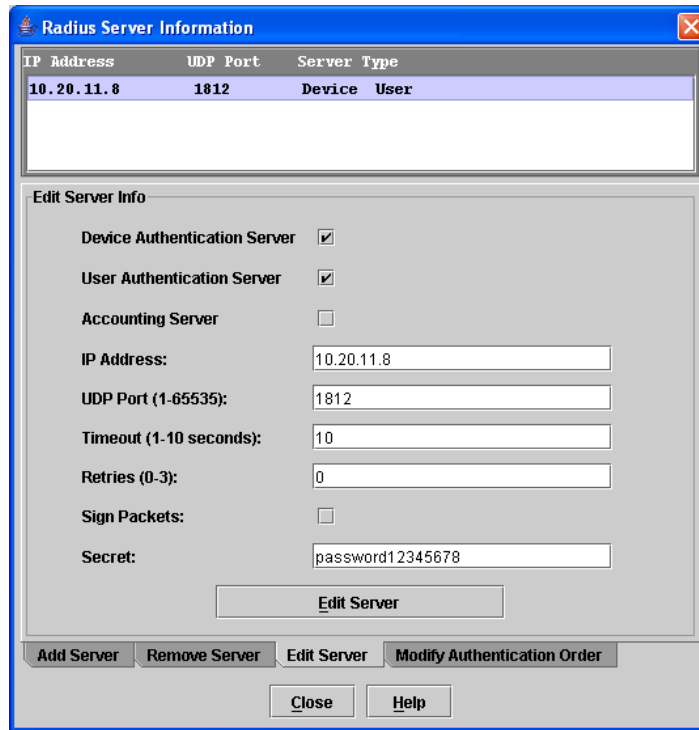

Figure 2-12. Edit Server Information
2. In the Radius Server Information window, shown in Figure 2-12, click the **Edit Server** tab.